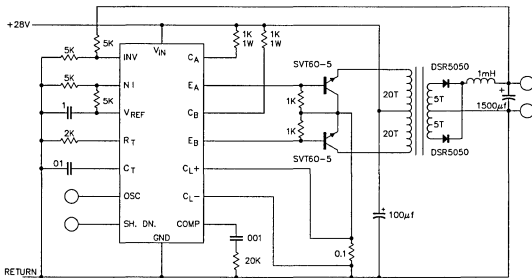

Figure 3. SG1524 Regulating DC - DC Converter
1. For the 0.3 to 1.0 microseconds, the deadband is controlled by the timing capacitor,  $C_T$ , on Pin 7. The relationship between  $C_T$  and deadband is shown in Figure 3 on the SG1524 data sheet. Of course, since  $C_T$  also determines the oscillator frequency, the range of control is somewhat limited.
Figure 3 shows the same 5-volt, 5amp output requirement met this time with a DC to DC converter. The use of high speed transistors and Schottky rectifiers keep the efficiency more than 80% - significant for a low-voltage output - while maintaining all the other benefits included in the single-ended circuit.